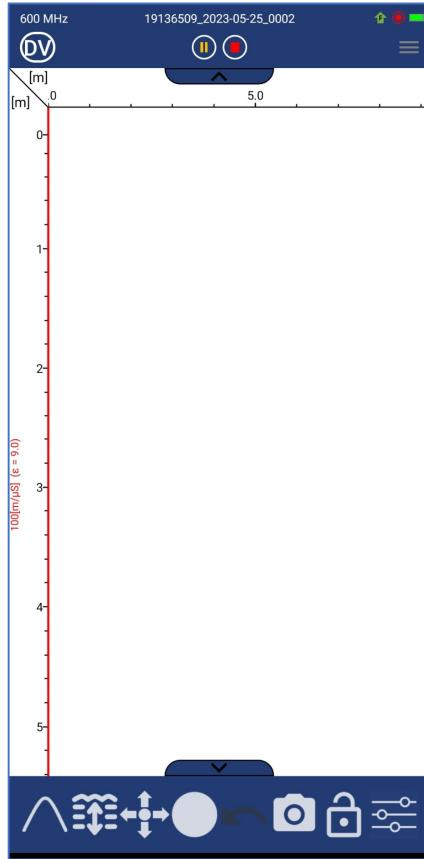

Figure 4: ViewPoint data acquisition screen
1. Select the project type (single vs. reference line) and then start the project. A data acquisition window will open (Figure 4).
3. GPR channel frequency is shown on top-left of the header toolbar **600 MHz**. In 'Dual View' (DV)  mode, data from previous profile is displayed above the current profile. It is intended for easier interpretation to verify if reflectors line-up in similar positions across the profiles. On top-right of the header toolbar, information about the profile direction (-Forward vs. -Reverse), GPS signal quality  and Device's battery status  is displayed. To access Antenna/User settings, tap  icon located on the right-side of the header toolbar. These settings are available only when data acquisition is not active.